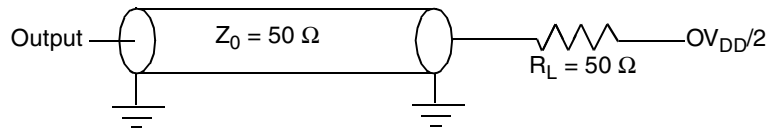

Figure 32. AC Test Load for the JTAG Interface
- All outputs are measured from the midpoint voltage of the falling/rising edge of t_{TCLK} to the midpoint of the signal in question. The output timings are measured at the pins. All output timings assume a purely resistive 50-Ω load (see Figure 32). Time-of-flight delays must be added for trace lengths, vias, and connectors in the system.
- The symbols used for timing specifications herein follow the pattern of $t_{(first\ two\ letters\ of\ functional\ block)(signal)(state)}$ (reference)(state) for inputs and $t_{(first\ two\ letters\ of\ functional\ block)(reference)(state)(signal)(state)}$ for outputs. For example, t_{JTDVKH} symbolizes JTAG device timing (JT) with respect to the time data input signals (D) reaching the valid state (V) relative to the t_{JTG} clock reference (K) going to the high (H) state or setup time. Also, t_{JTDXKH} symbolizes JTAG timing (JT) with respect to the time data input signals (D) went invalid (X) relative to the t_{JTG} clock reference (K) going to the high (H) state. Note that, in general, the clock reference symbol representation is based on three letters representing the clock of a particular functional. For rise and fall times, the latter convention is used with the appropriate letter: R (rise) or F (fall).
Figure 32 provides the AC test load for TDO and the boundary-scan outputs of the MPC8555E.